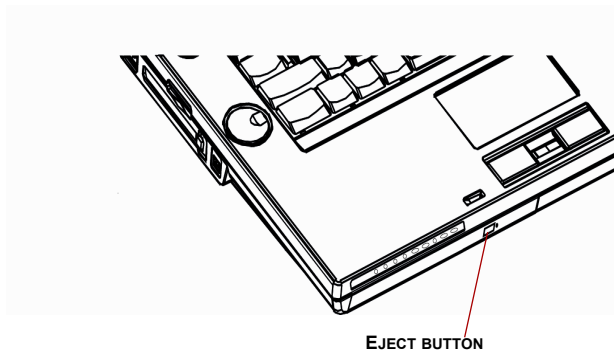

Figure 4-6 Pressing the eject button
- When the disc tray is fully opened, the edge of the computer will extend slightly over the CD/DVD tray. Therefore, you will need to turn the CD/DVD at an angle when you place it in the tray. After seating the CD/DVD, however, make sure it lies flat, as shown in figure 4-6.